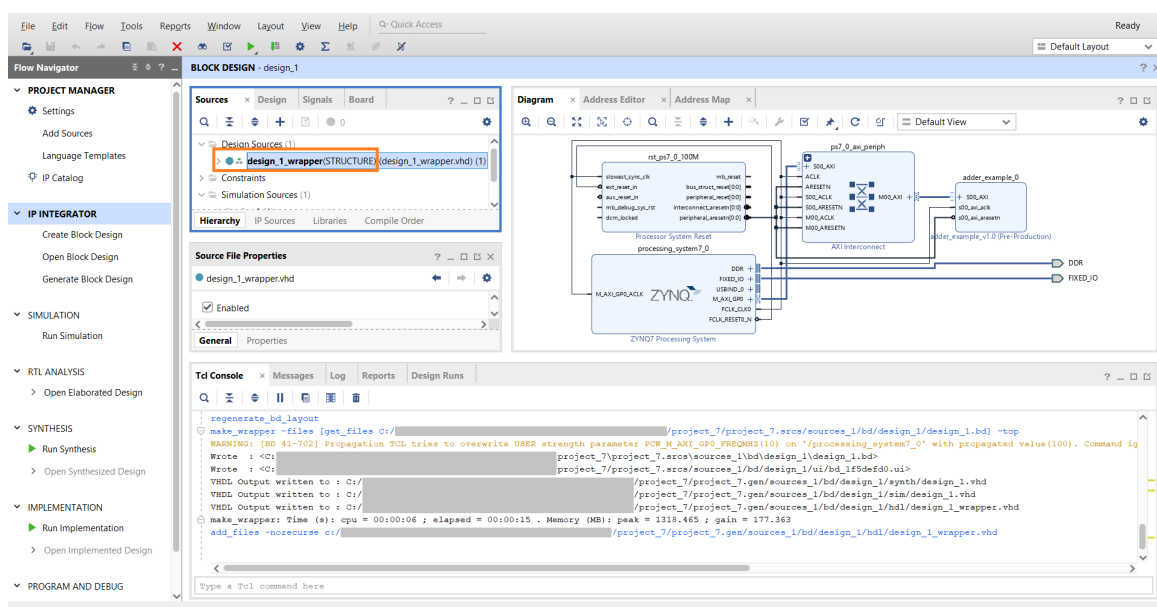

Figure 32: Added HDL wrapper on current block design
- STEP 3: Wait until the operation is done. Note then that the wrapper is now visible as shown on Figure 32